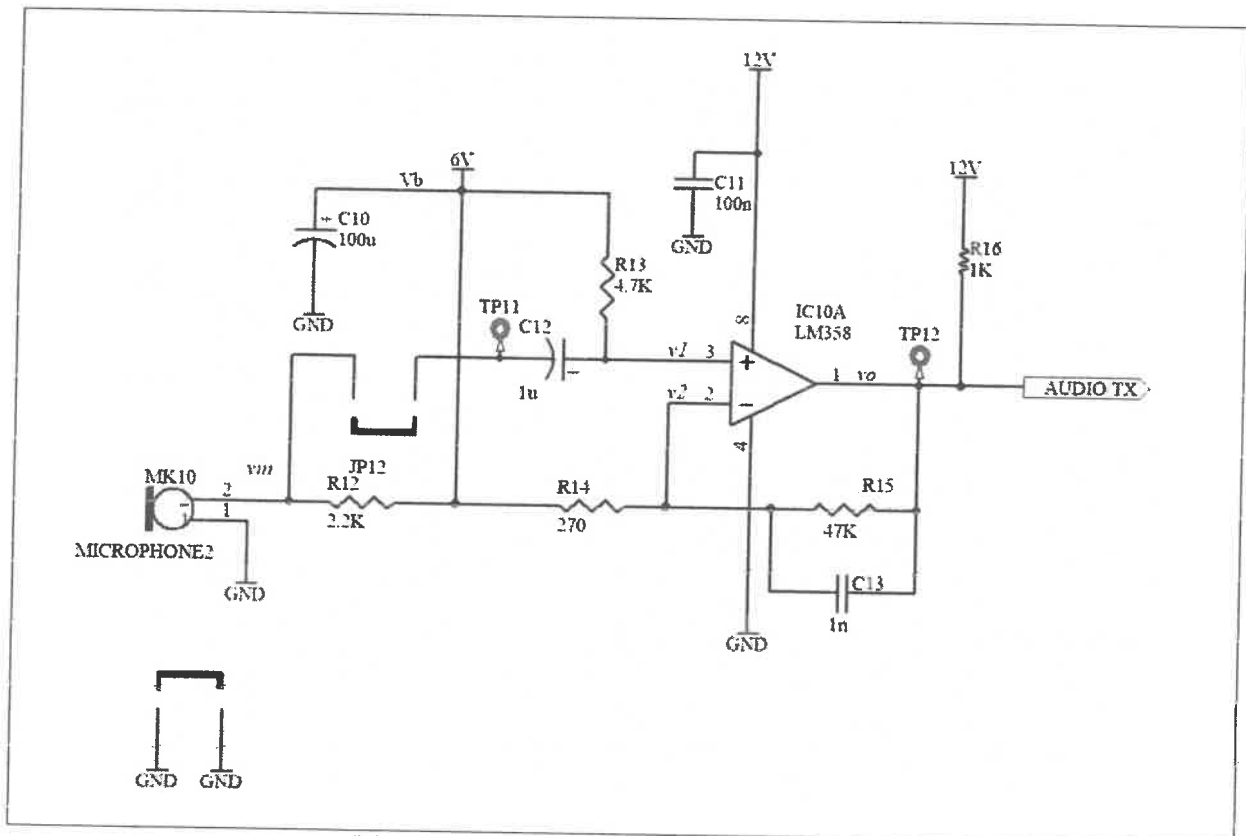

Figure 1: Schematic of microphone amplifier
1. Consider the TRC-11 microphone amplifier circuit shown in Fig. 1, making use of one of the two OPAMPs in LM358 integrated circuit. Since the OPAMP operates with a single supply voltage, the input DC voltages of the OPAMP should be shifted to a voltage somewhere between $V_{CC}=+12V$ and GND. For this purpose, we use the regulated voltage, $+6V$. Therefore, $+6V$ acts like a ground, $+12V$ acts like the positive supply, and GND acts like the negative supply of the OPAMP.